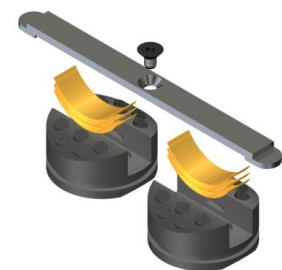

Fig. 5
NOTE12: Install two (2ea) hold down button springs (26) per hold down button (Fig. 5).